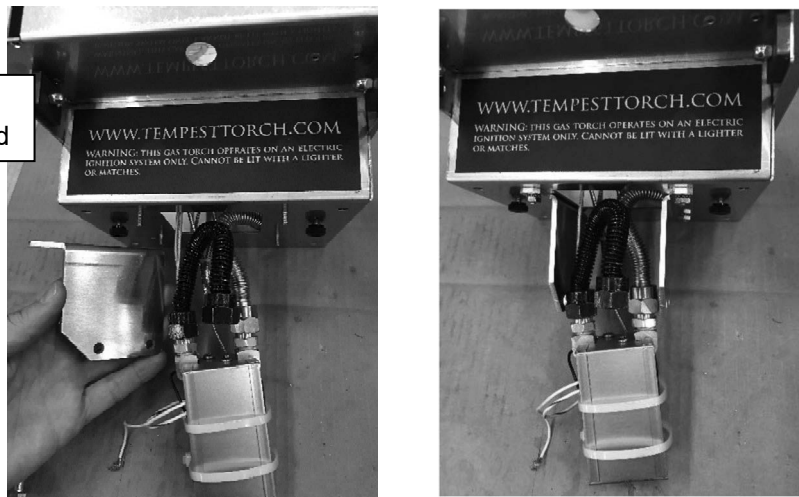

Figure 10
7. Install the Head Mounting Brackets (included in the hardware pack) to the bottom of the torch head. The tabs should be oriented toward the sides of the torch head and lopped-off corners should be facing the front of the torch (see figure 10). Use the nuts that were removed in step (6).